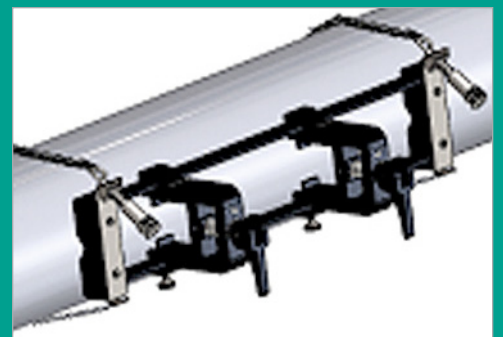

Figure 15: Fixture rotated to horizontal position
8. Rotate the fixture to the 3 o'clock or 9 o'clock position on the pipe (see *Figure 15* below). Installation on the top or bottom of the pipe is not recommended. Make sure the pipe still rests in the cutout slot on the bottom of both end pieces, to ensure that the fixture is parallel to the pipe centerline.